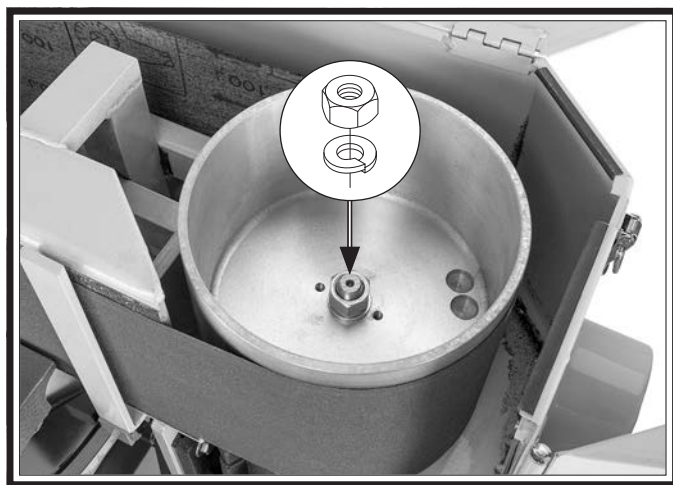

Figure 85. Location of drive roller and securing fasteners.
2. Remove hex nut and lock washer shown in **Figure 85**.
3. Insert (2) $\frac{1}{4}$ " x $\frac{3}{4}$ ", $\frac{1}{4}$ "-20 x $1\frac{3}{4}$ " shoulder screws completely into puller plate and thread screws four turns into threaded holes in drive roller (see **Figure 85**).
4. Thread $\frac{5}{16}$ "-18 x $1\frac{1}{4}$ " cap screw into center of puller plate and turn clockwise until drive roller is pulled (see **Figure 85**).